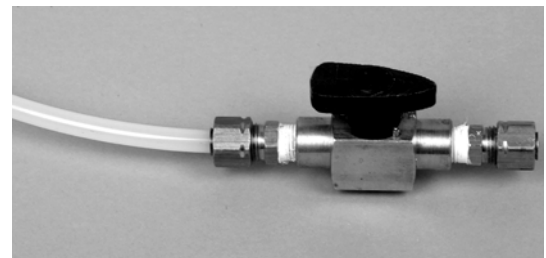

Figure 6 – Bleed Valve
13. At the end of the tubing line, past the spray nozzles, attach a bleed valve to shut off the line and hold pressure (figure 6). It is preferable to end at the drum for convenience in bleeding insecticide and air from the line into the drum. Close valve after air is removed.